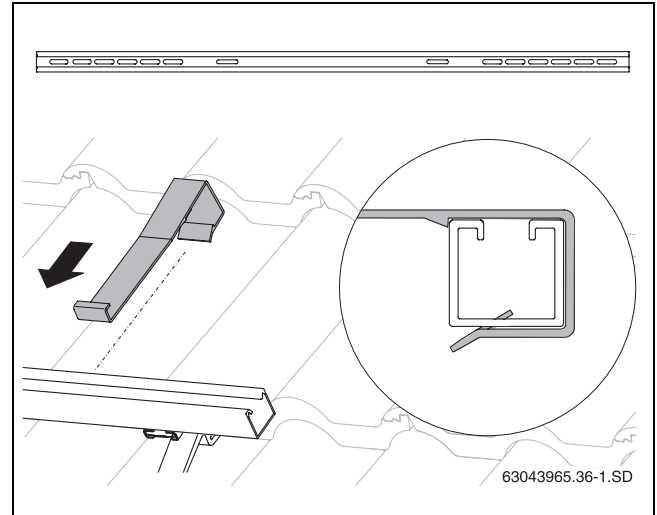

Fig. 30 Attaching anti-slip protection
- ▶ Push each anti-slip protector (Fig. 30, [3]) into the innermost slotted holes (Fig. 30, [1]) over the profile rails until it clicks into place (Fig. 30, [2]).